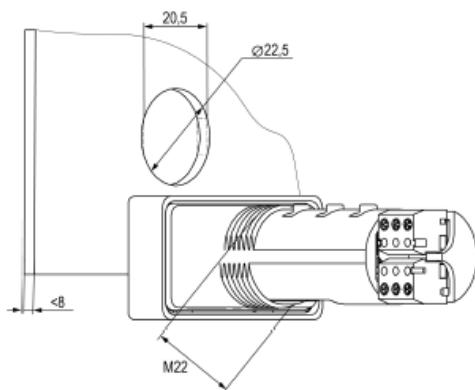

Fig. 2 *Mounting cutout*
- Prepare the mounting cutout with Ø of 22.5 mm in the switchboard where the device should be mounted (see Fig. 2).